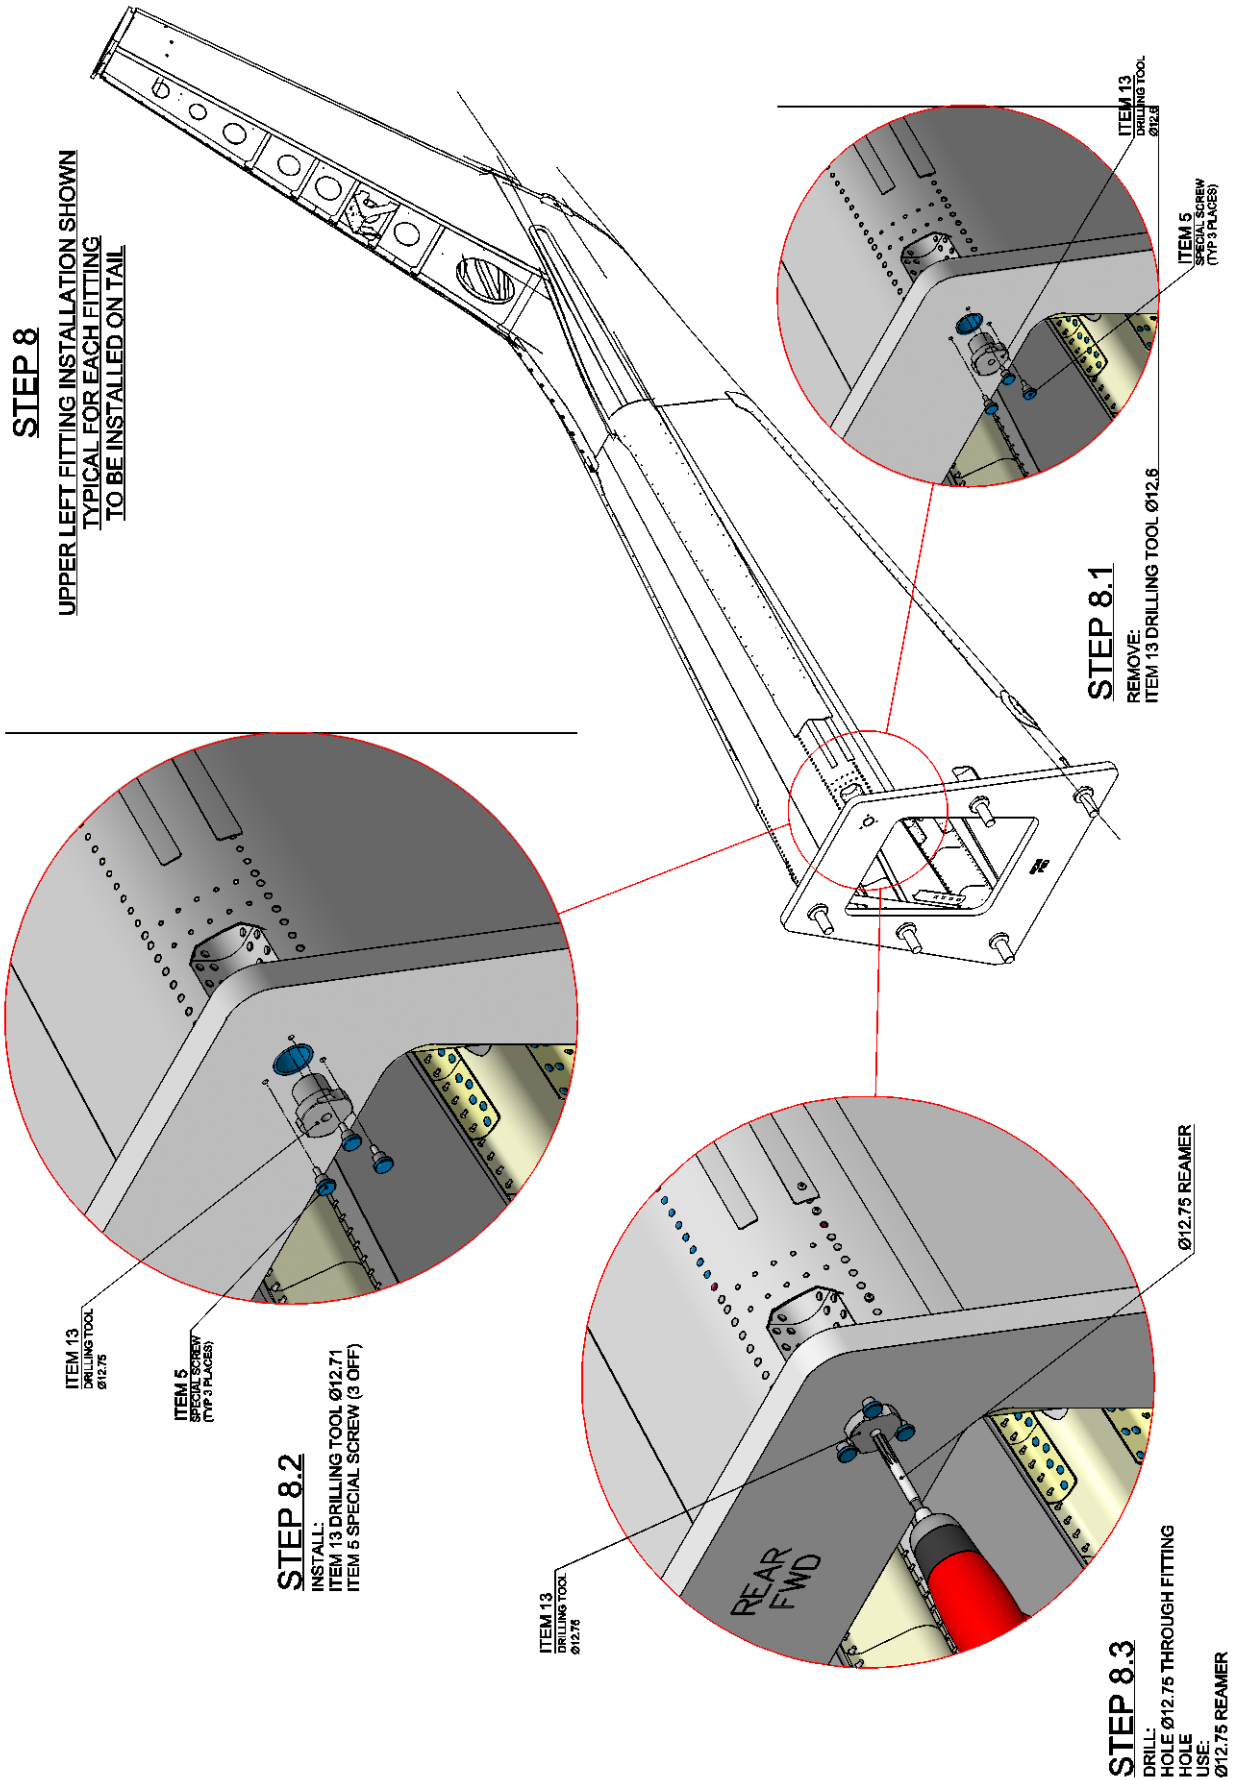

Figure A9
13. With reference to Figure A9, remove the drilling tool $\varnothing 12.6$ (ITEM 13) and the n°3 special screws (ITEM 5).
14. With reference to Figure A9, install the drilling tool $\varnothing 12.75$ (ITEM 13) by means of n°3 special screws (ITEM 5) and ream the fitting hole to $\varnothing 12.75$ by means of reamer $\varnothing 12.75$.
15. With reference to Figure A9, remove the drilling tool $\varnothing 12.75$ (ITEM 13) and the n°3 special screws (ITEM 5).